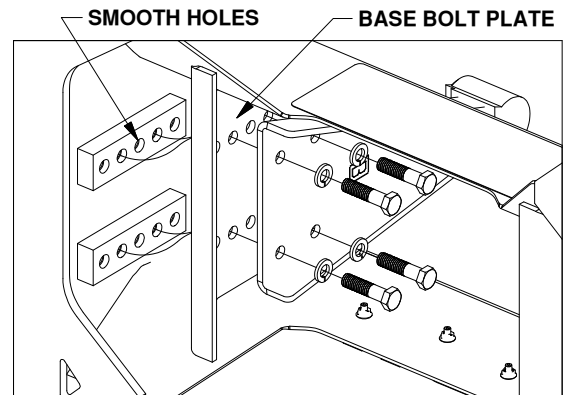

Figure A4: View under the base.
3. Secure arms. Retrieve both pivot arms, the four threaded blocks, eight 1/2" cap screws, and eight 1/2" lock washers. Place the lock washers over the cap screws. Align the flat side of the pivot arm against the bolt plate and install four 1/2" cap screws through the holes on the arm, holding the arm in place, as shown in Figure A4. Locate the threaded blocks. Note that the sides of the block have threaded holes on one side and smooth bored holes on the other side. When installing the threaded blocks, it is critical that the side with the smooth holes is flat against the bolt plate. It is also crucial that each of the five holes in the threaded block matches up with the five vertical holes in the bolt plate. Pass the threaded block under the base's side and align the block with each set of screws, then start each screw. After all the screws are started through the arms, tighten and torque each bolt to 110 ft-lbs.